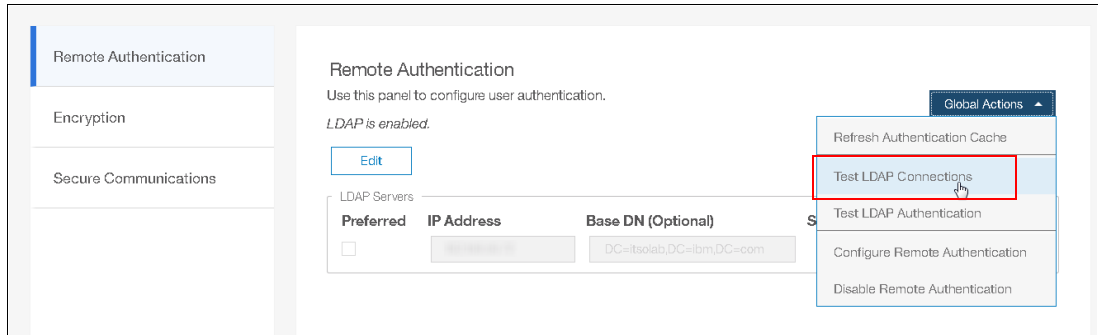

Figure 7-28 Remote Authentication: Test LDAP Connections option
2. Click **Global Actions** → **Test LDAP Connections**, as shown in Figure 7-28.